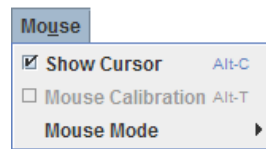
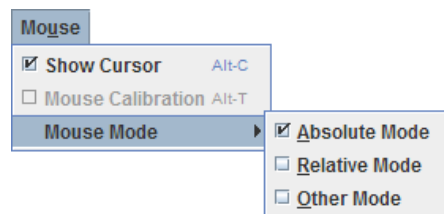

Figure 46: Remote Console Mouse Menu on EPSP Platforms Based on Intel® Xeon® Processor E5 4600/2600/2400/1600/1400 Product Families
Figure 47: Remote Console Mouse Menu - Mode selection on EPSP Platforms Based on Intel® Xeon® Processor E5 4600/2600/2400/1600/1400 Product Families
- **Mouse Mode.** This option is only available on EPSP Platforms Based on Intel® Xeon® Processor E5-4600/2600/2400/1600/1400 Product Families. See Figure 46. This allows you to select the mouse mode being used. You can select Absolute, Relative, or Other as shown in Figure 47. For a description of these modes, see section 7.3.9. Note that the functionality of this option is the same as changing then saving the mode on the Mouse Mode page. Any selections that you make will be saved for the next time when the remote console window is opened.